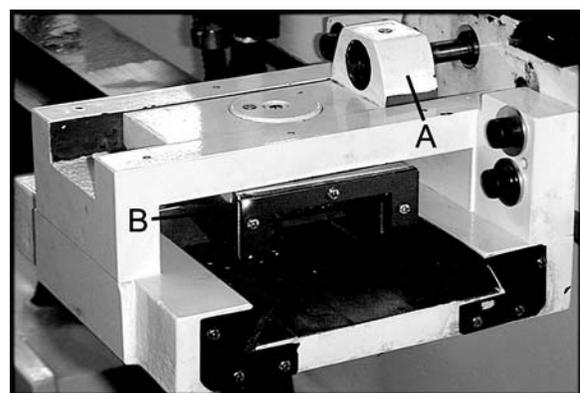

Figure 4
6. Install the inner bearing and feed block leaving it loose for adjustment (A, Figure 4). Fasten the set collar, on the feed block, with a hex socket cap screw. Install the taper slide rest leaving it loose for adjustment (B, Figure 4).